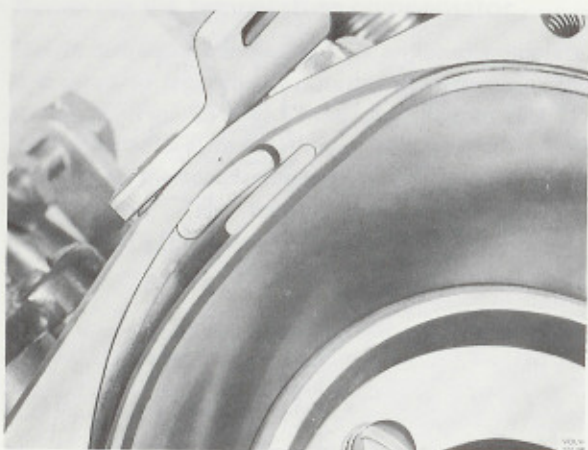

Fig. 23-25. Diaphragm in carburettor housing
4. Move the air valve down and fit in the rubber register, Fig. 23-25. Install the spring and cover. Fill with damper oil (Automatic Transmission Fluid). **NOTE!** The damper cylinders must not be filled with engine oil.
NOTE! Fit the diaphragm according to Fig. 23-25.